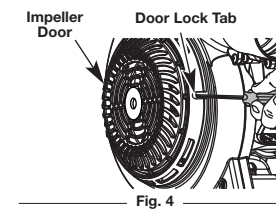

Fig. 4
1. Locate the hole in the impeller door. The door lock tab is recessed in the hole toward the front of the blower (Fig. 4). Insert a flat head screwdriver, into the hole and press the door lock tab in and lift the door to release the lock.